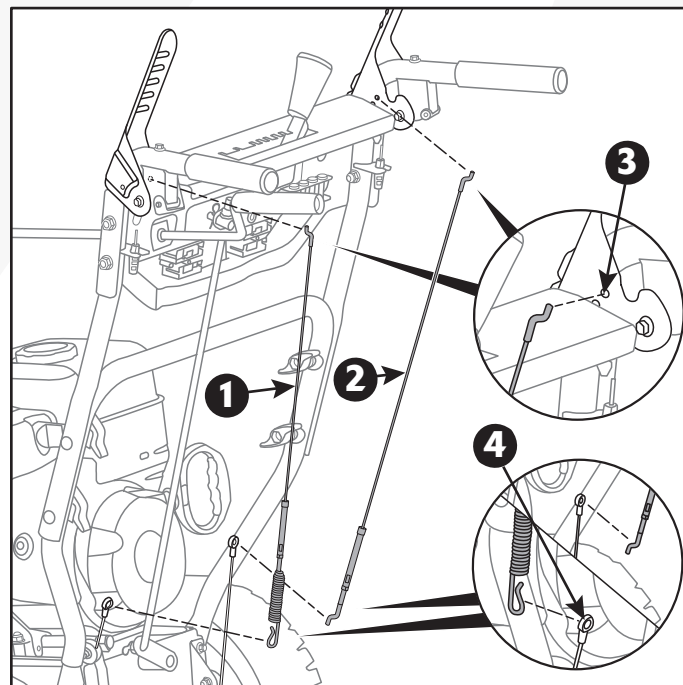

Fig. 3A
1. Connect the lower end of the auger control cable to the cable connecting port. (Fig. 3A)
3. Hook the upper end of the auger control cable into the auger control handle hole. (Fig. 3A)